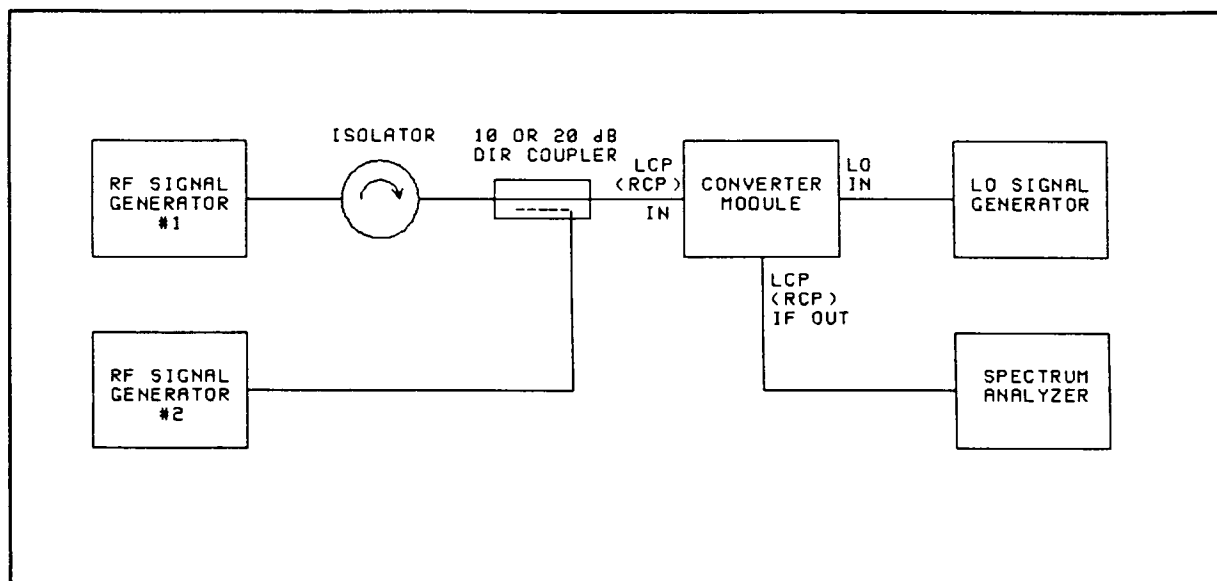

Figure 8 Power Output at the 1 dB Compression Point
1. Connect the equipment shown in Figure 8. The LCP input is connected to the output of the directional coupler and the spectrum analyzer is connected to the LCP IF output. RF signal generator #1 represents the strong, undesired signal. Set it at midband. RF signal generator #2 represents the desired, weaker signal. Set its